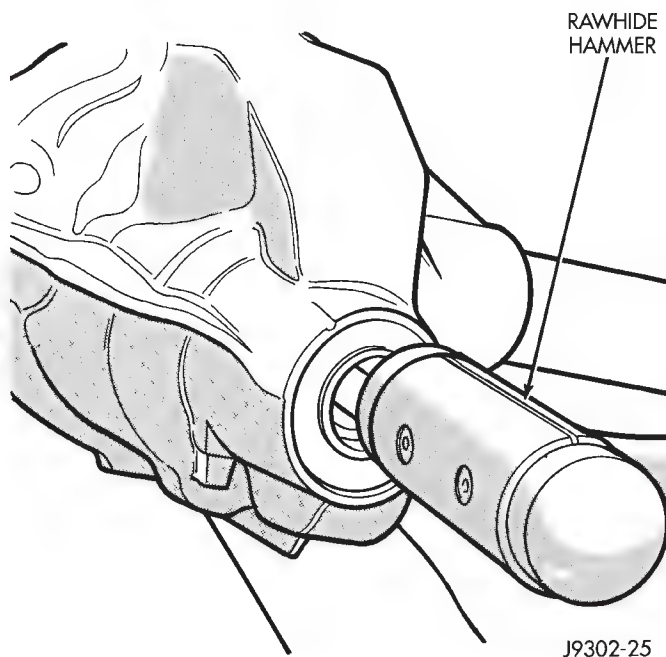
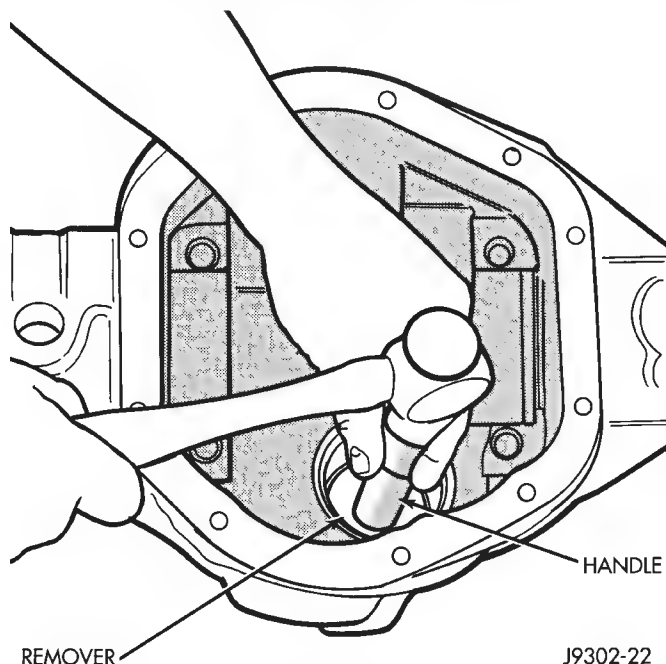

Fig. 33 Remove Pinion Gear
Fig. 34 Front Bearing Cup Removal
(3) Drive out pinion gear from housing with rawhide or plastic hammer (Fig. 33). Catch the pinion with your hand to prevent it from falling and being damaged. **This will damage the front bearing rollers and bearing cup. The front bearing and cup must be replaced.** Remove preload shims and record the thickness.
(4) Remove front bearing from housing.
(5) Remove the front pinion bearing cup and seal with Remover D-147 and Handle C-4171 (Fig. 34).